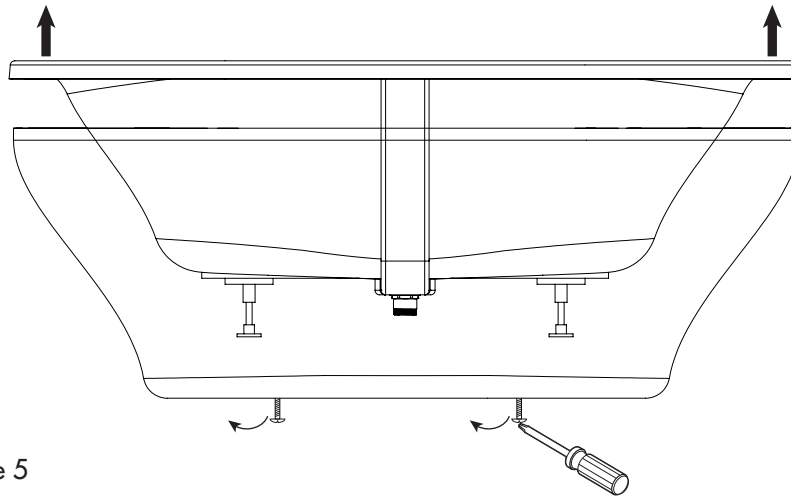

Figure 5
2. If fill spout installation is to be on the tub deck, check the back side of the tub for adequate space for connection to water lines before drilling or cutting tub. Detach the screws at the bottom of the tub using a Phillips screwdriver. Then carefully remove the top of the tub and place it on a throw rug or other protective floor covering to prevent damage. (See Figure 5)